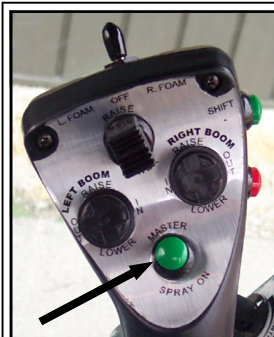

FIG. 4.7D-3
**MAIN SOLUTION SWITCH**– Main spray power can be controlled from a switch on the hydrostatic lever (fig. 4.7D-3). This controls the panel of boom solution valve switches. The main switch must be on to supply the individual switches with voltage. This allows you to turn all of the boom solution valves ON or OFF at the same time such as turning it off when you arrive at the end rows of a field and turning it back on when you re-enter the field. The individual switches allow you to turn the valves on or off separately.